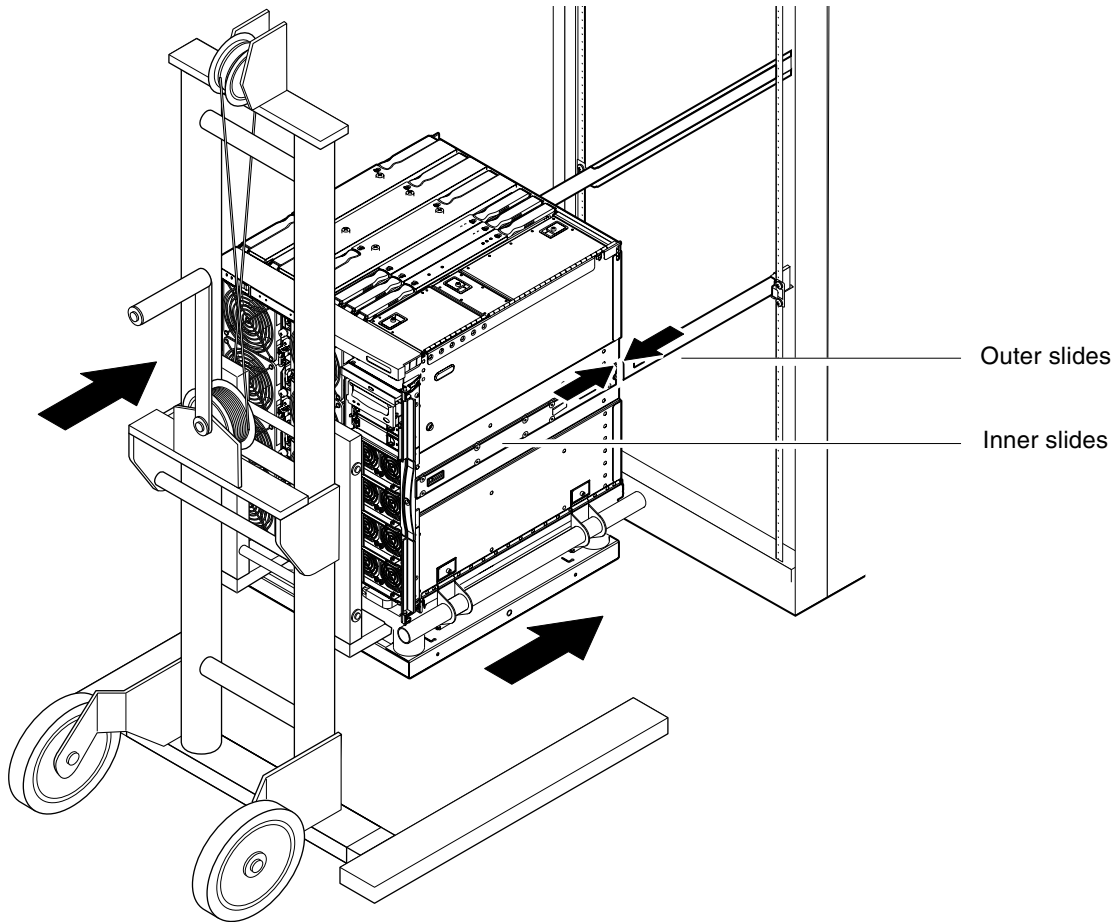

FIGURE 1-9 Aligning the Slides
6. Carefully move the lifting device forward until the slides on the system are fully engaged with the outer slides on the cabinet (FIGURE 1-9).